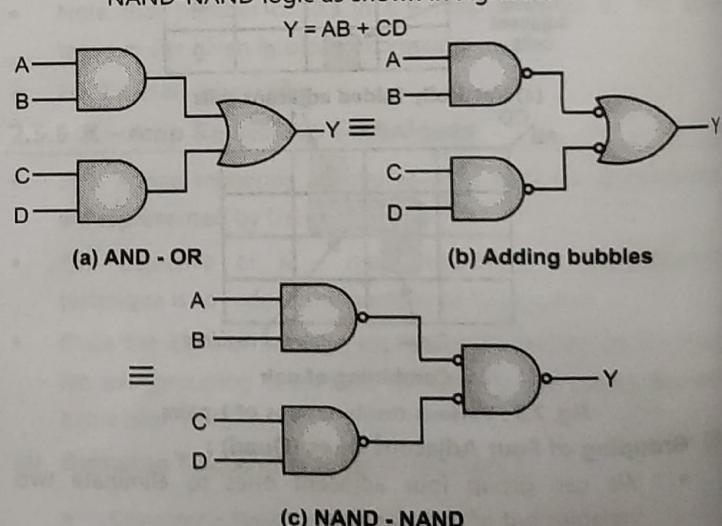

Fig. 2.16 : Converting AND-OR logic to NAND-NAND logic
- Following example, shows converting AND-OR logic to NAND-NAND logic as shown in Fig. 2.16.